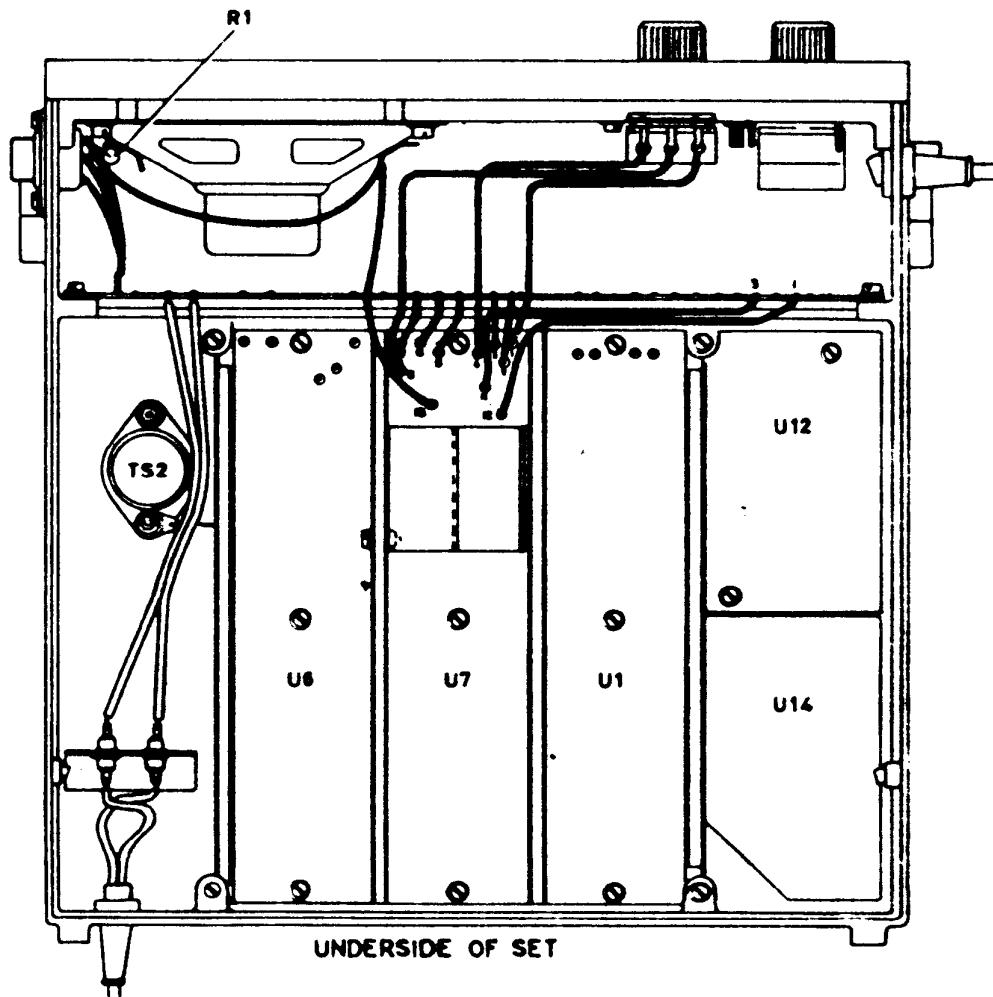

Figure 3-6 U7 Audio Card Wiring
g. Refer to figure 3-6 for routing of the following connections of U7 Audio Card 451-782-243/248.